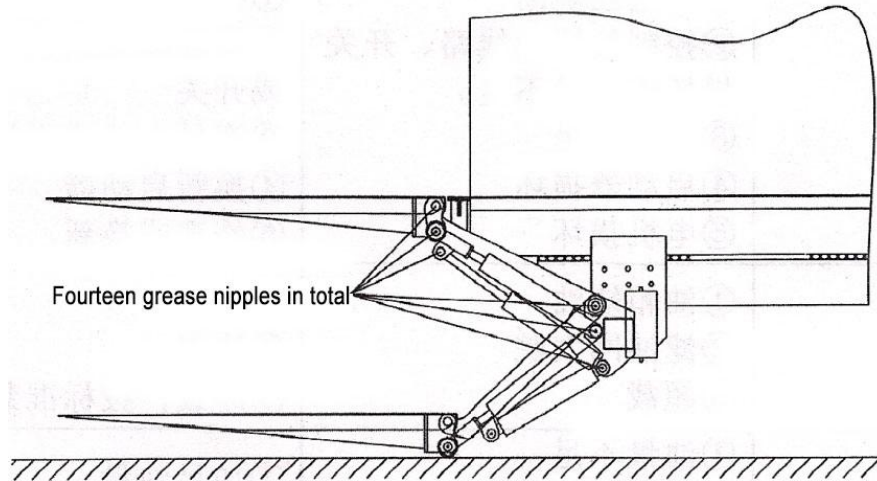

Figure 5-1 Schematic diagram of grease fittings distribution
1. There are a total of 14 grease fittings on the entire tailboard. Butter should be injected every half month to lubricate the rotating parts of the shaft pin. The distribution of grease fittings is shown in Figure 5-1.